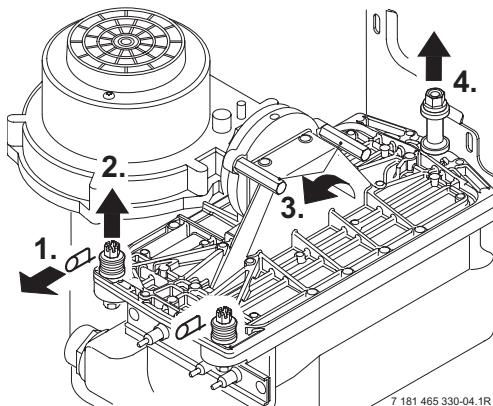

Fig. 52
- ▶ Remove the clips (1.) and unscrew the two bolts (2.). Refer to fig. 52.